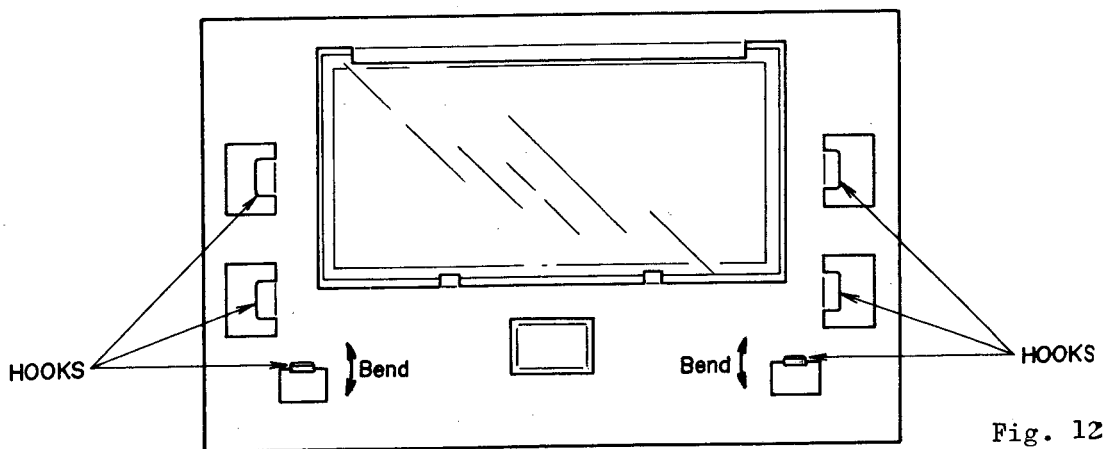

Fig. 12
9) Front Panel Lid Case Spacing Adjustment (Refer to Fig. 12)
In case the Lid Case comes too far toward either side, adjust by bending the two lower hooks as indicated by the arrow marks in Fig. 12.